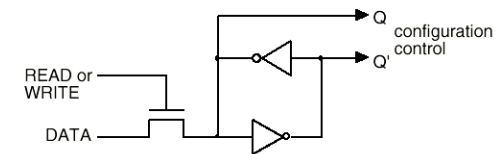

Figure 3.2 1-bit of static RAM
- Almost all **Field Programmable Gate Arrays** (FPGAs) are based on static RAMs. (Figure 3.2)